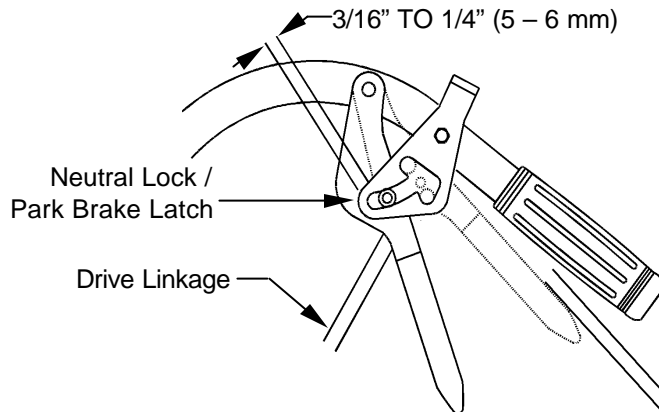

FIGURE 10
- c) Adjust drive linkage length by threading into or out of the swivel until there is a 3/16" to 1/4" (5 – 6 mm) clearance between the linkage assembly and the bottom of the slot in the neutral lock/park brake latch (See Figure 10).